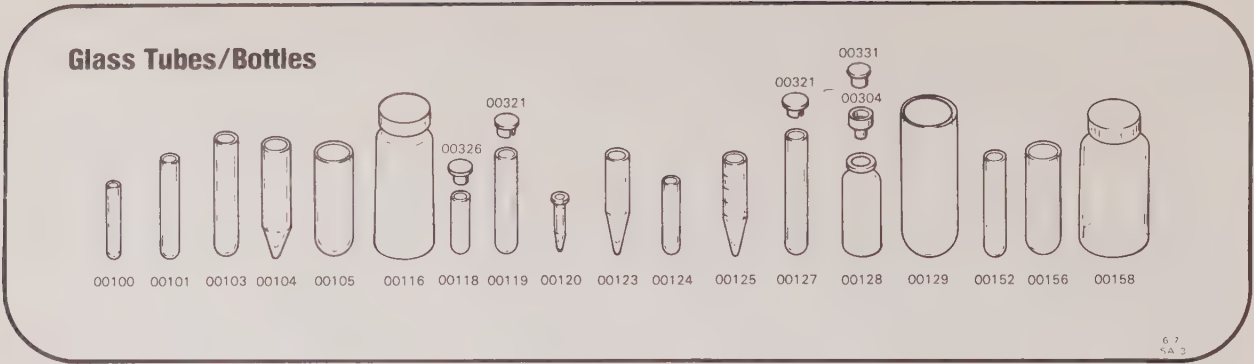

Figure 1-2. Glass Tubes and Bottles
b. Part Number — Gives the part number assigned to each item by the Biomedical Division*. Tables 1-3, 1-4 and 1-5 are keyed by part number to figures 1-2, 1-3 and 1-4 respectively. The figures illustrate the tubes, bottles and covers listed.